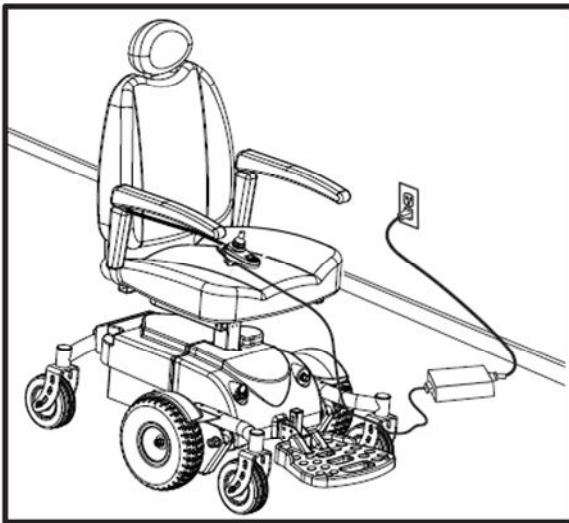
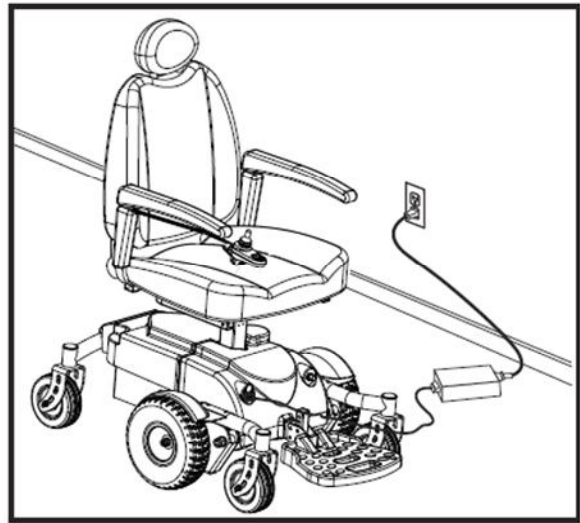

Figure 9
Figure 10
The Zip'r Mantis battery charger is essential in providing a long life for the power chair batteries. The power chair offers two charging ports for your convenience (see Figures 9 and 10) and either port may be used to complete the charging process. Please note that the battery charger is only functional when the charger power chord is plugged into an electrical outlet.
2. Plug the off-board charger into either of the charging ports (Figure 9 shows the charging port located on the bottom of the joystick controller and Figure 10 shows the charging port located on the front right section of the power chair base).